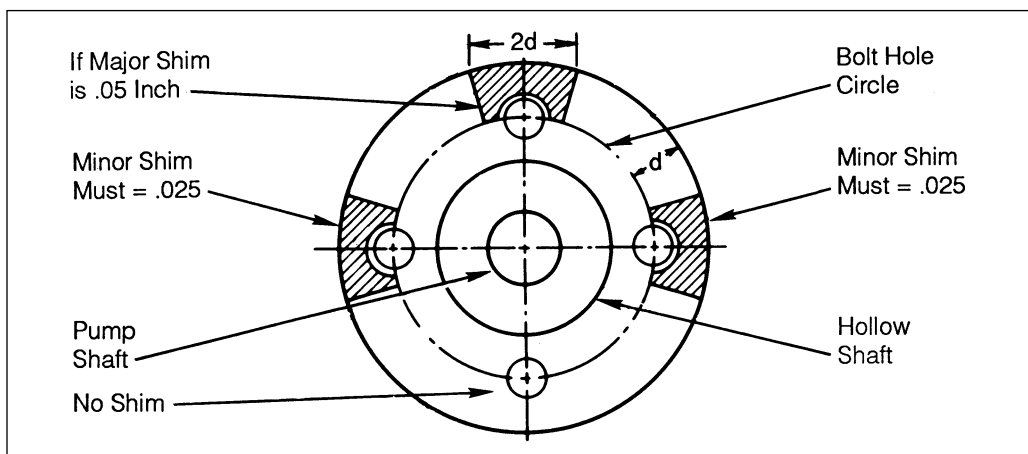

Figure 4 - Shimming Flange Face
5. Shim flange faces if necessary (Figure 4).
To avoid the possibility of twisting the flange when shimming between the flanges, minor shims should be one-half the thickness of the major shim. Shims should not penetrate deeper than the bolt hole circle and not be wider than twice the penetration distance (Figure 4).
Small excess misalignment may be corrected by inserting shims between flange faces. Such shims may also compensate for flanges being out of plane. (Figure 4.)